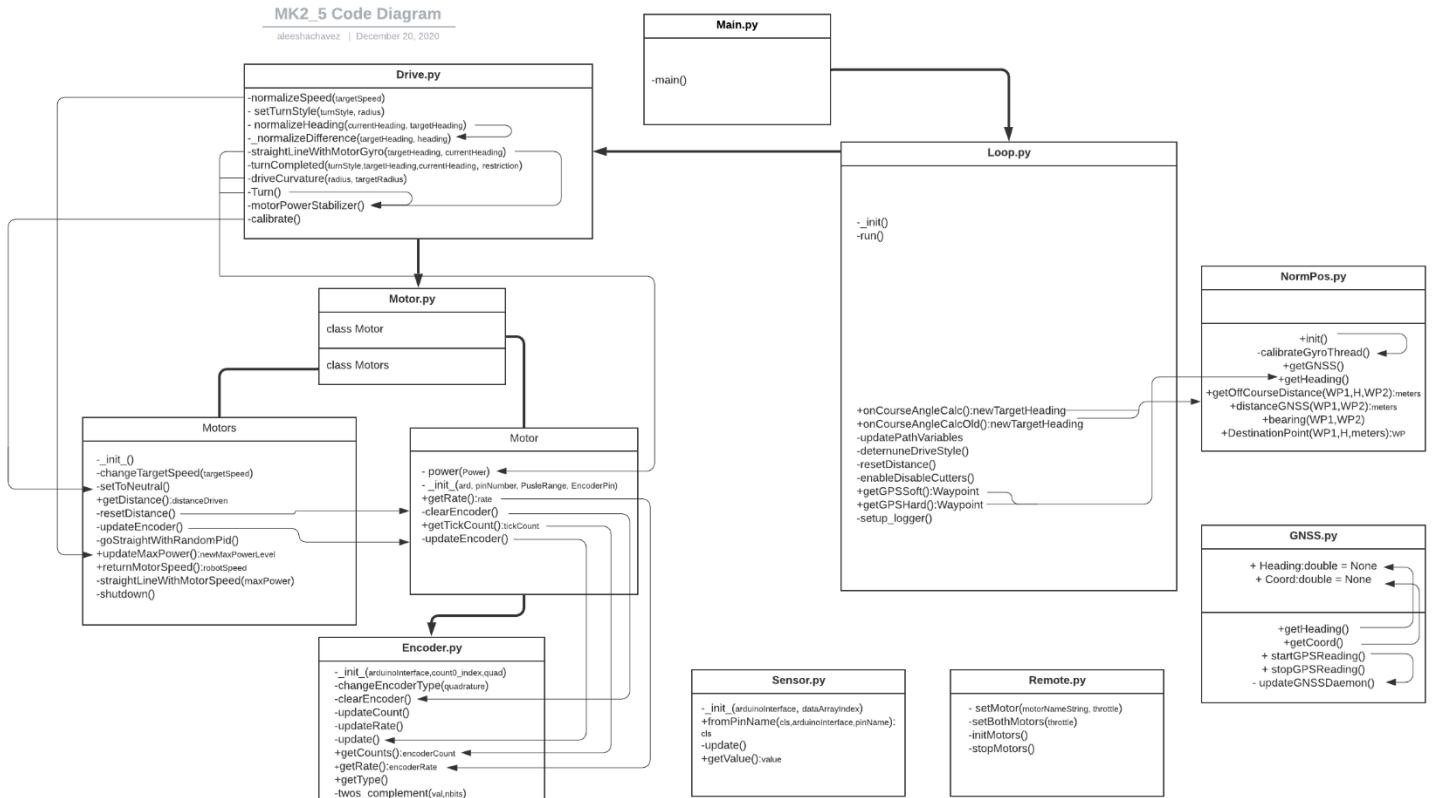

Figure 3: Dataflow Diagram of Mark2.7 Program
- Figure 3. UML of Mark2.7 Program
development included finalizing Main.py (see appendix G), which read in the robot's input parameters from the terminal, and calls Loop.py accordingly. The input parameters were designed to give the user flexibility on which sensors they want to utilize for the specific driving patterns. The next section elaborates on the input parameters and driving patterns. In order to keep all of the fast pace development organized, a dataflow diagram was created to organize all classes and methods, with arrows describing inheritance. The final code diagram for the Mark2.7 contains the flow of functionality for the robot, and is shown below in Figure 3.